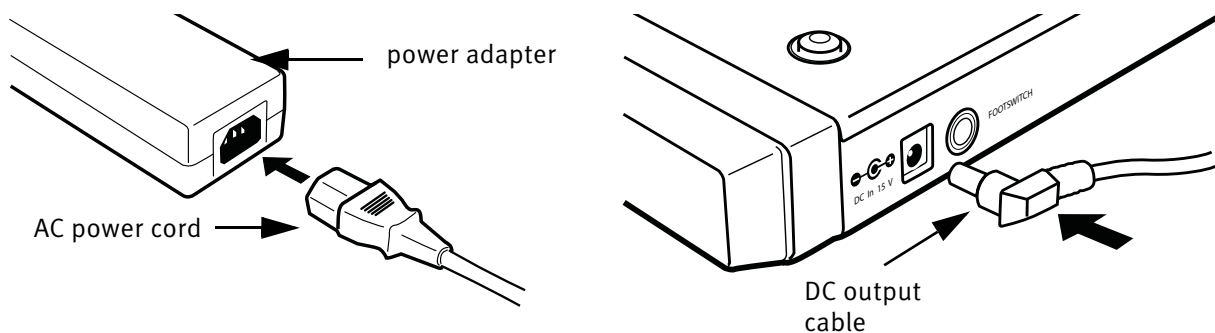

Figure 2-7 Connecting the power adapter
4. Plug one end of the AC power cord into the power adapter (Figure 2-7 left) and the other into a power outlet. Make sure the AC power cord is pushed all the way into the adapter.
5. Connect the DC output cable from the power adapter to **DC In** on the left side of the rear panel (Figure 2-7 right).